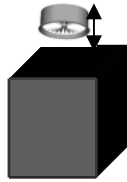

Fig. 11
- Hold the HEPA filter by the edges and vigorously "TapClean" the HEPA Filter **dirty side down** on a hard, flat surface until no more dust is observed falling out from between the pleats of the filter. (Fig. 11) We recommend washing the HEPA filter once a month or when suction appears to be reduced. Let the HEPA filter air dry completely for 24 hours.